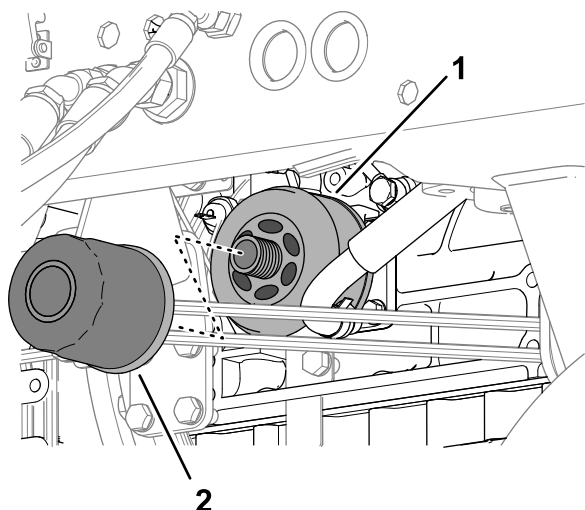

Figure 126
- Rotate the oil filter counterclockwise to remove it (Figure 126).